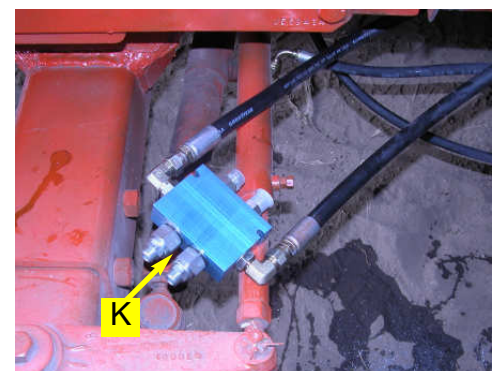

Figure 6f. Steering lines connected to counter-balance valve block.
- f. Connect the steering lines to the elbow fittings on the **V1** and **V2** ports of the counter-balance valve block. (Figure 6f.)